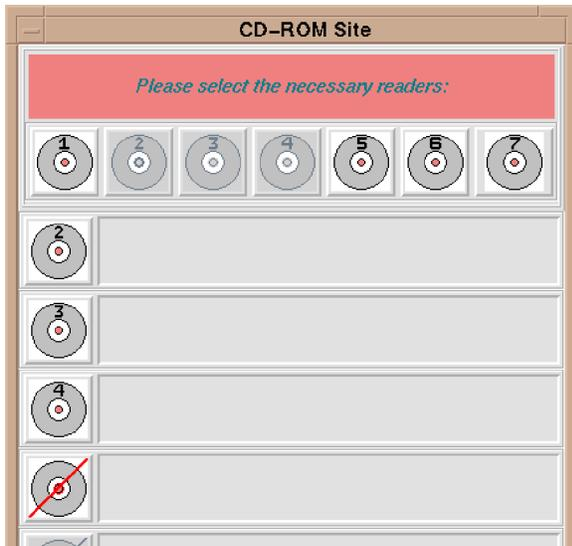

Fig. 76 — **CD-ROM Site Window**: three CD readers selected (#2, 3, 4)
- 3) Click (with left mouse button) on the CD device number(s) to be selected (1 through 7). As the user selects a device number, MMC will enter it in the list (Fig. 76).